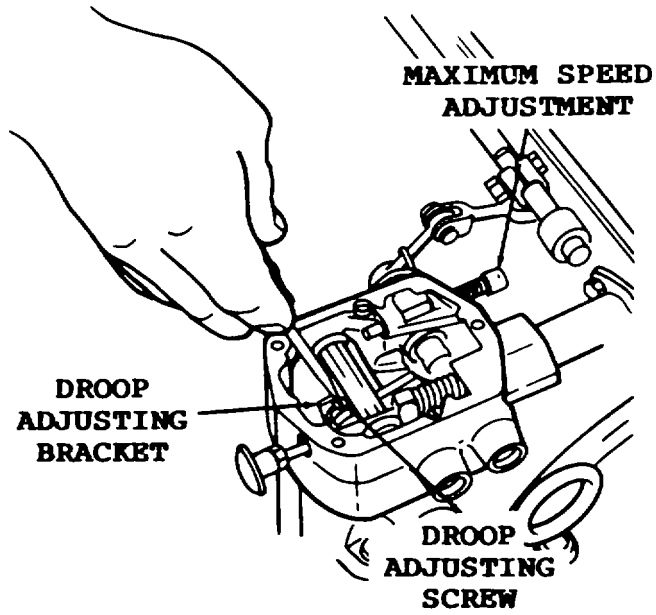

Figure 3-23. Adjusting Speed Droop.
- (7) Refer to figure 3-23 and loosen the speed droop adjusting screw. Move the bracket so the screw is midway between the ends of the slot in the bracket. Tighten the screw.